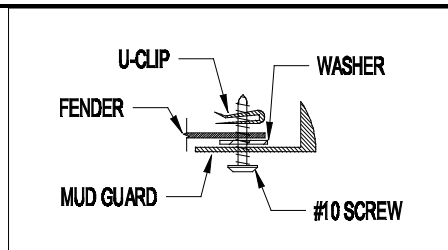

Figure 2
3. Attach mud guard to fender with a #10 screw and washer thru mud guard, fender, and into a U-Clip placed on the backside of fender (see Figure 2), check to make sure mud guard is evenly covering tire and is parallel to the ground.